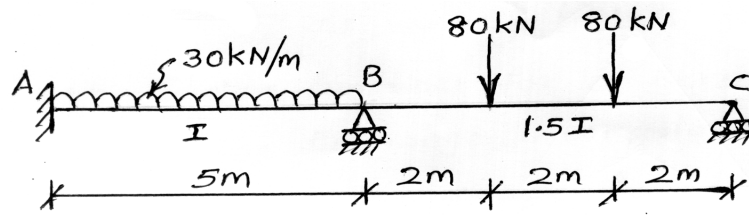

Fig. Q3
3. Analyze the continuous beam shown in Fig. Q3 by direct stiffness method. Sketch BMD and elastic curve.